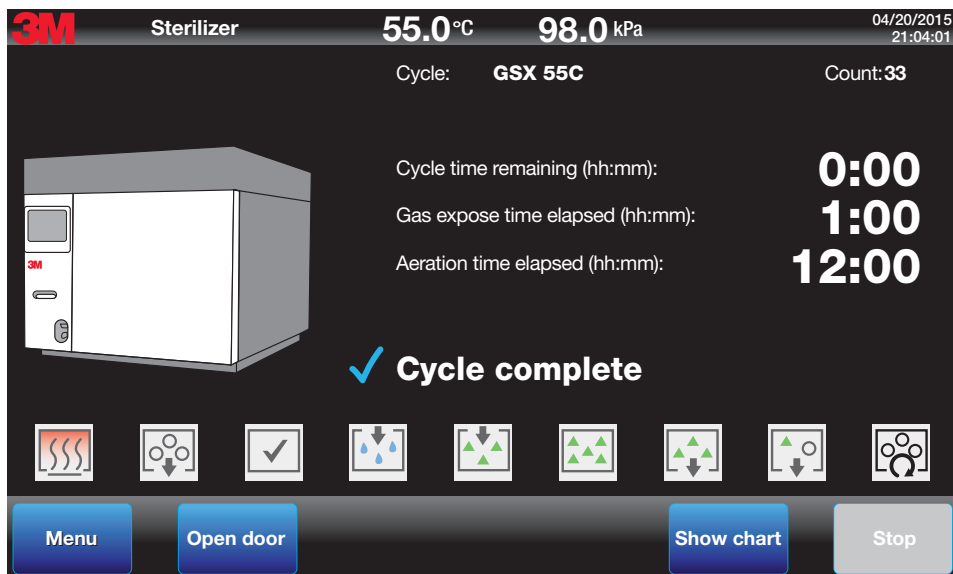

Figure 88.
1. Press the **Open Door** button on the touch screen (Figure 88). On double door units, press the **Open Unload Door** button.